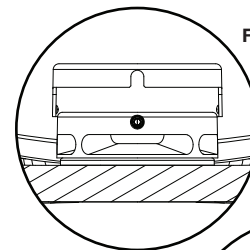
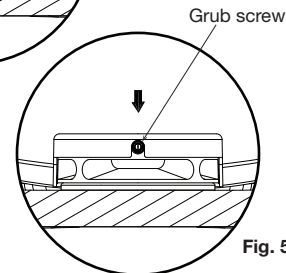

Fig. 4
Fig. 5
- 2- Align the "U" slot at the bottom of the cap with the grub screw under the spreader head as shown in **Fig. 4** and **Fig. 5**, and push it all the way in.